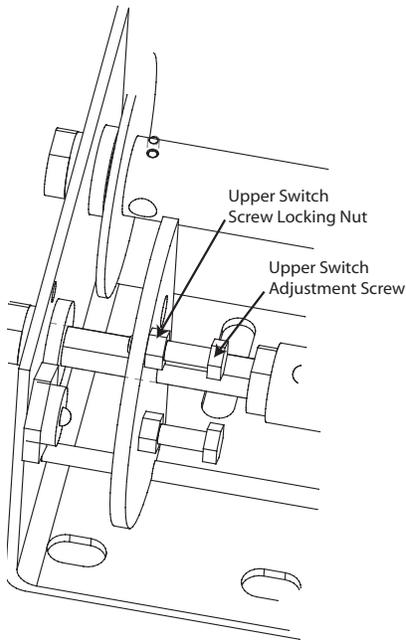

FIGURE 3.
13. Loosen locking nut on upper adjustment screw (see Figure 3).